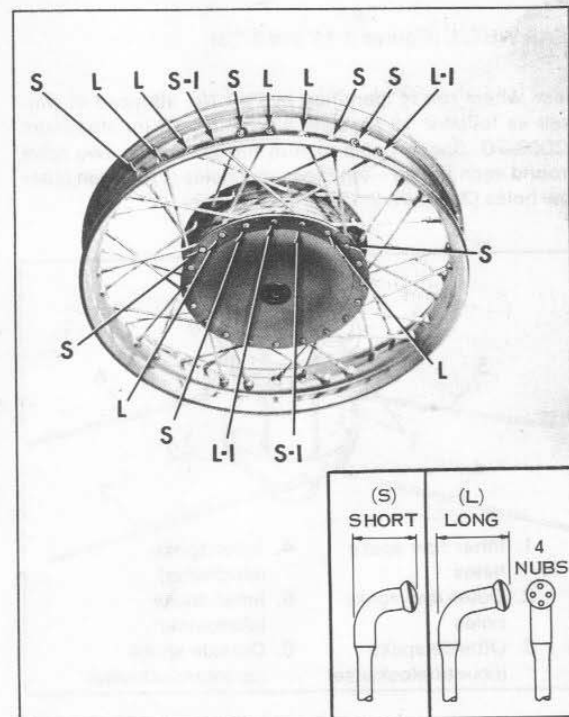

Figure 2-15. Front Wheel Lacing (1972 and Earlier)
### FRONT WHEEL (Figures 2-15, 2-16)
Note that there are two types of spokes: long and short. They are identified by the shape of the bent end as shown in Figure 2-15. One long and one short spoke are used in each pair. The long spoke (L) of each pair on rim crosses over to opposite side of hub while the short spoke (S) of each pair on rim connects to same side of hub. Spoke arrangement is shown in Figure 2-15 or 2-16.
9. Cross long spokes clockwise underneath short spokes and insert into right (clockwise hole) of each pair of holes that angles in same direction as spoke on opposite side of rim well. See L-1 in Figure 2-15 or 2-16.
10. Cross short spokes clockwise above long spokes and insert into right (counterclockwise hole) of each pair on near side of rim well that angles in same direction as spoke. See S-1 in Figure 2-15 or 2-16.